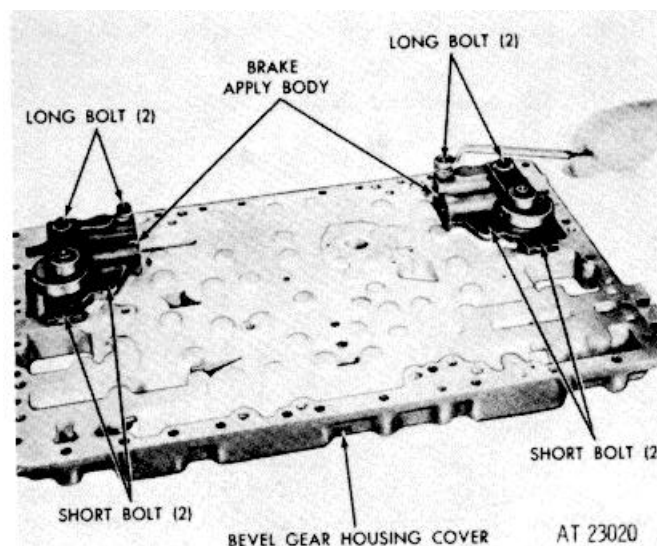

Figure 7-60. Removing (or installing) brake apply body bolt
a. Remove breather assembly (35) from cover assembly (36).
d. Remove eight bolts (62, 65, 85, 93) and washers (61, 66, 84, 94). Remove the right and left brake apply body assemblies (52 and 79) from housing. Removing (or installing) brake apply body bolt. cover (37). Refer to figure 7-60.
u. Secure brake apply body assembly (79) to housing cover (37) with two bolts (93), two bolts (85) and their washers (94 and 84). Refer to figure 7-60.
v. Install indicator washer (30, FO-13) and two retaining rings (29) on brake apply shaft (74).